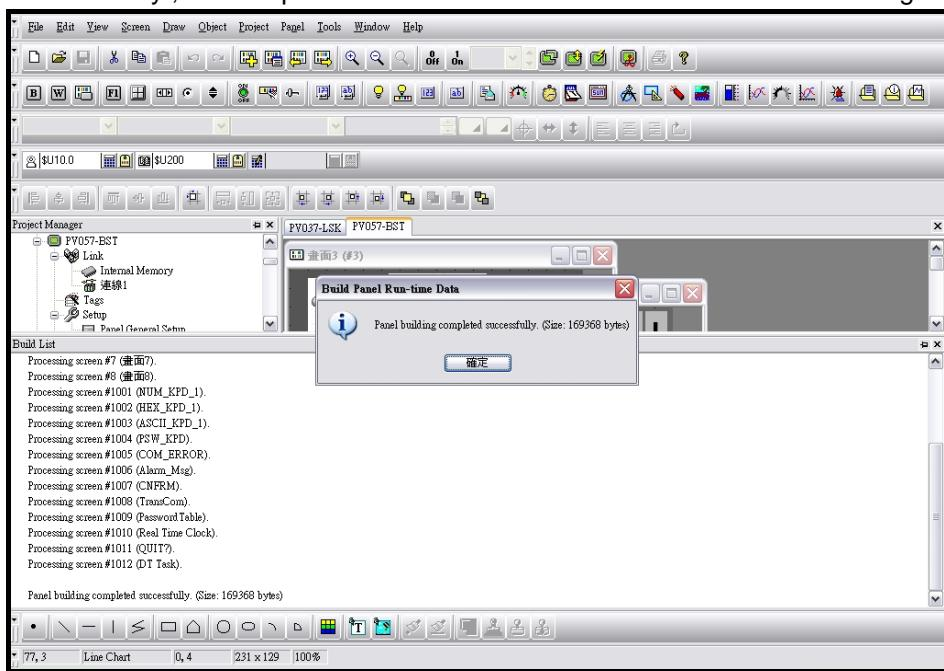

Figure 2-99 New project_step 8_ “Build touch run-time data“ (compile successful)
Step 8 : Modify all errors and execute “Build touch run-time data“ again to make sure all errors have been corrected. Only when there is no error occurred and the file is compiled successfully , the compiled file can be use to download. See as shown in figure 2-99.